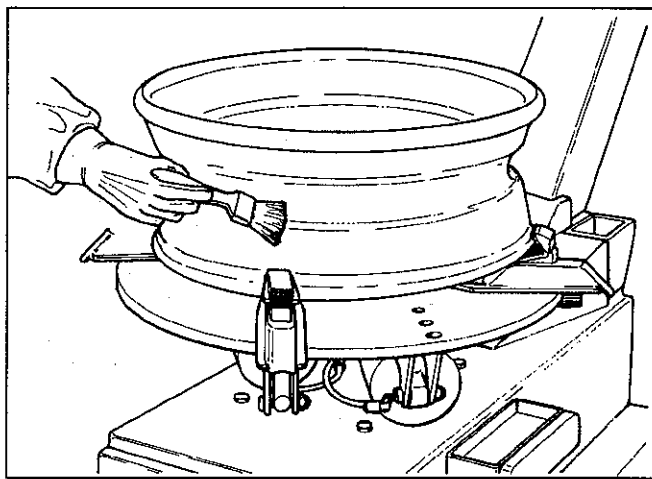

Fig.21
A. Lubricate the entire rim surface (Fig.21).